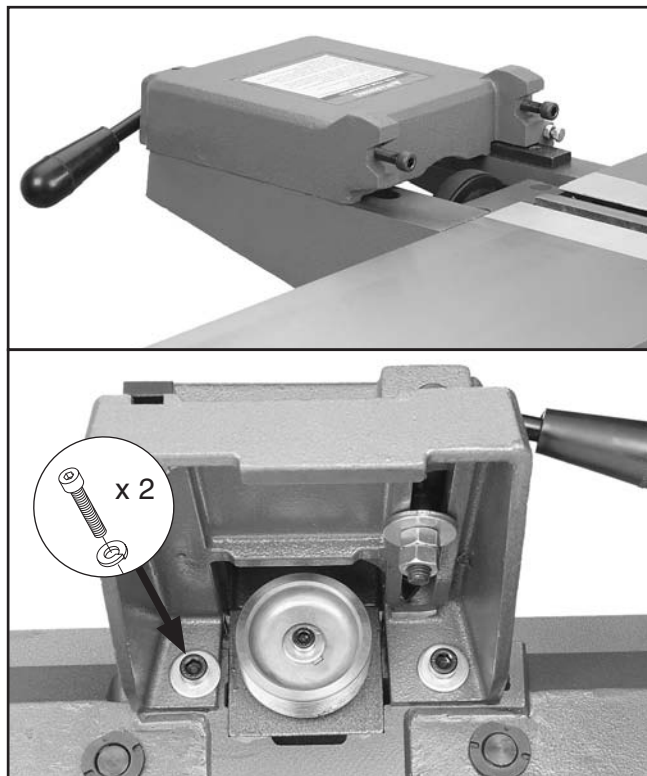

Figure 13. Fence carriage installed.
17. Use the two pre-installed cap screws to install the fence carriage to the rear of the jointer assembly, as shown in **Figure 13**.